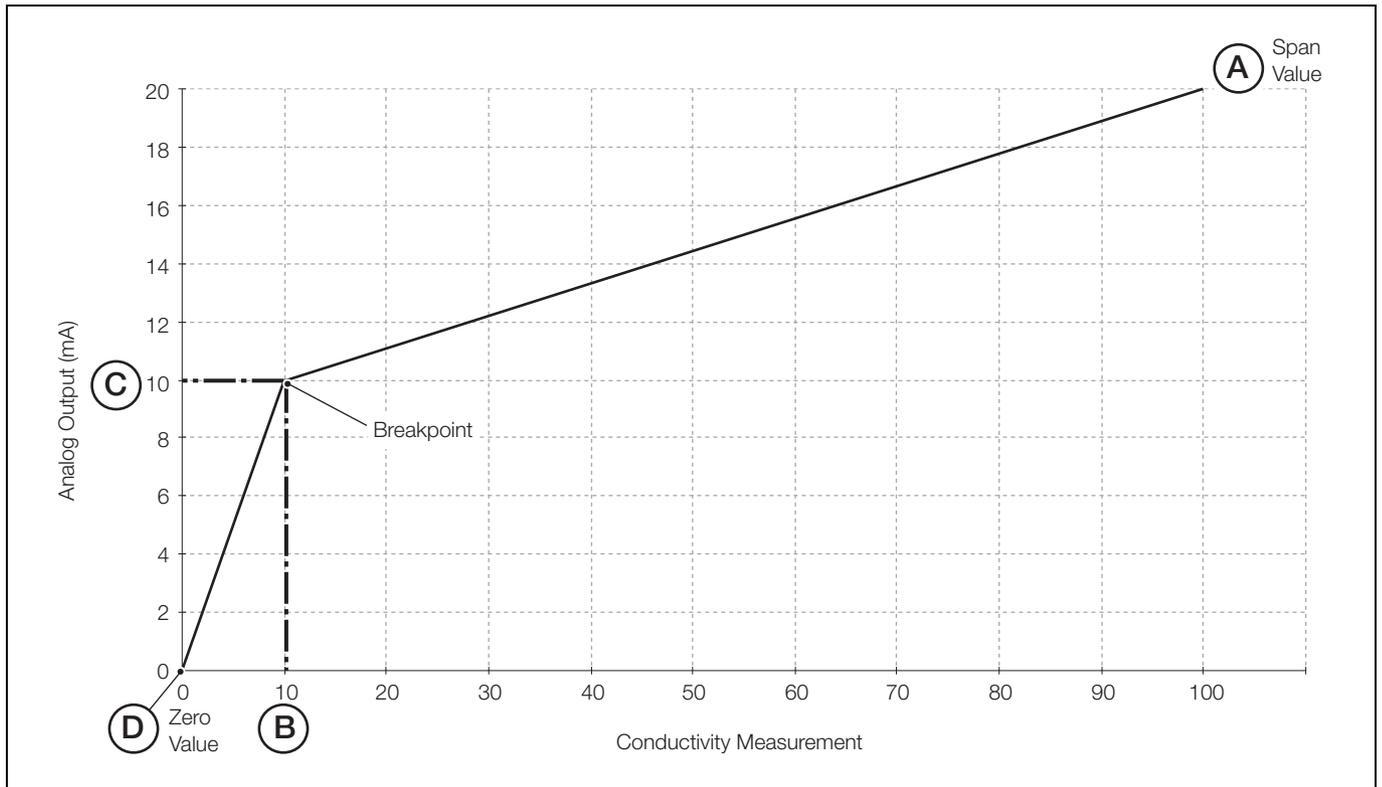

Fig. 5.6 Bi-Linear Output
Bi-Lin – Bi-linear – see Fig. 5.6 on page 39
uS/cm and **Adjust** are shown alternately on the upper display line. Use the  and  keys to adjust the displayed reading to the required span value. This is Point A in Fig. 5.6.
uS/cm and **Adjust** are shown alternately on the center display line. Use the  and  keys to adjust the displayed reading to the required zero value. This is Point D in Fig. 5.6.
uS/cm and **Adjust** are shown alternately on the upper display line. Use the  and  keys to adjust the displayed reading to the required breakpoint conductivity value. This is Point B in Fig. 5.6.
mA and **Adjust** are shown alternately on the center display line. Use the  and  keys to adjust the displayed reading to the required breakpoint current value. This is Point C in Fig. 5.6.
5.6.1 Bi-Linear Output – Fig. 5.6